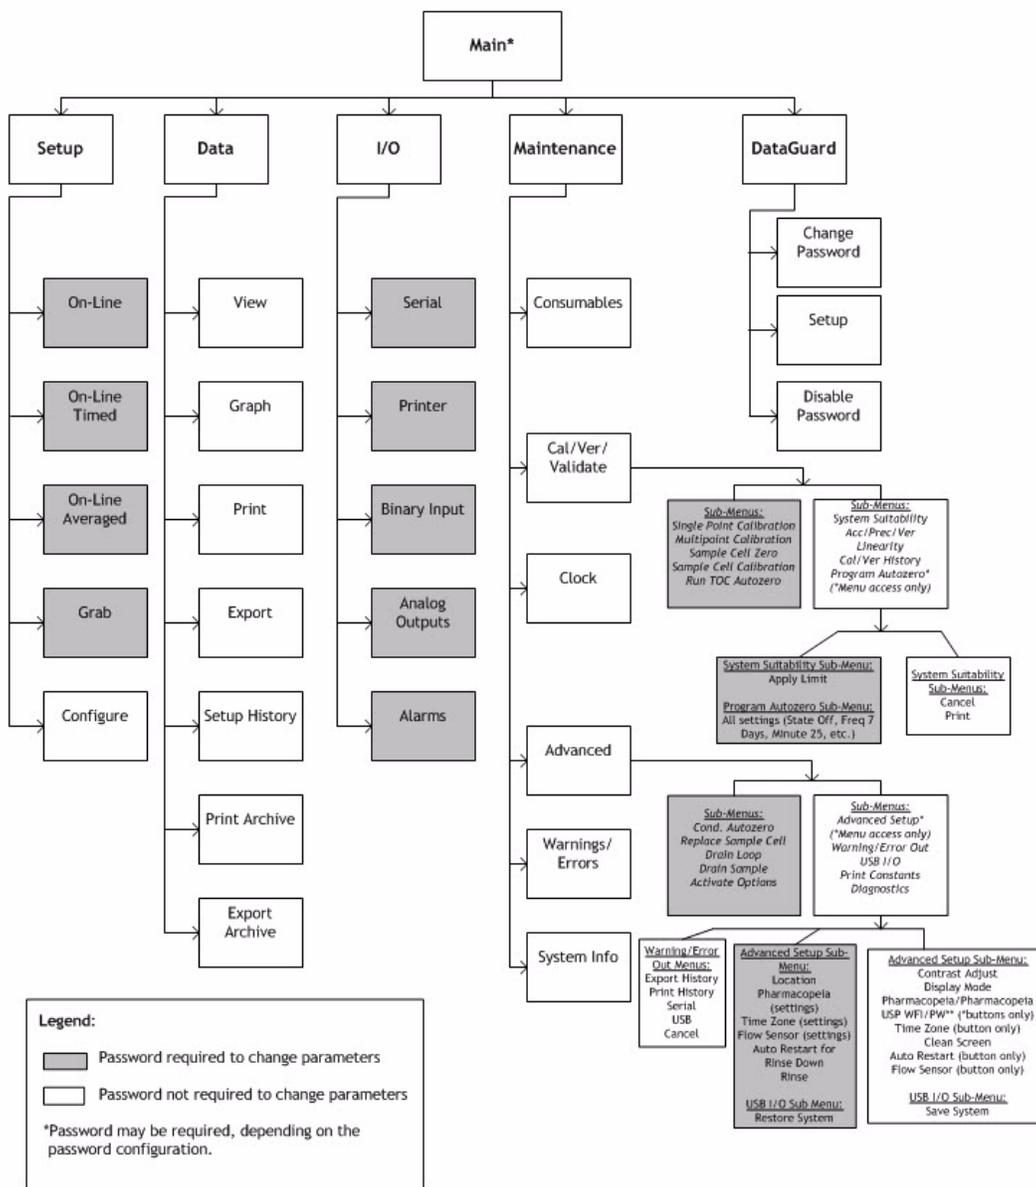

Figure 21: Menu Map – Menu Lockout Off (Requires Calibration Passwords)
Turn the **Menu Lockout** option to *Off*, to automatically allow users access to screens that run and stop analysis, or display sampling data, without the need to enter the user name and password. Users are **ONLY** required to enter a user name and password in order to change parameters that affect calibration and analysis. To view which menus and sub-menus require a password, see Figure 21: Menu Map — Menu Lockout Off (Requires Calibration Passwords) on page 115.
required to access each of the menu screens is listed in Figure 21: Menu Map – Menu Lockout Off (Requires Calibration Passwords) on page 115.
- **Menu Lockout** - When the *On* option is enabled, the user login and password are **ONLY** required to access the Main menu. When the *Off* option is enabled, the user login and password are required to change parameters that affect calibration or analysis measurements. The default setting is Menu Lockout *Off*. For more information, see Figure 21: Menu Map — Menu Lockout Off (Requires Calibration Passwords) on page 115.
The minimum User Level required to access each of the menu screens is listed in Figure 21: Menu Map — Menu Lockout Off (Requires Calibration Passwords) on page 115.
- **User Level** — Indicates the level of access the user has to various Analyzer menus. The options in order of ascending access are **Operator** (default for all new User IDs), **Maintenance**, **Quality**, and **Administrator**. See Figure 21: Menu Map — Menu Lockout Off (Requires Calibration Passwords) on page 115 for a menu map that indicates the minimum **User Level** required to access each menu.